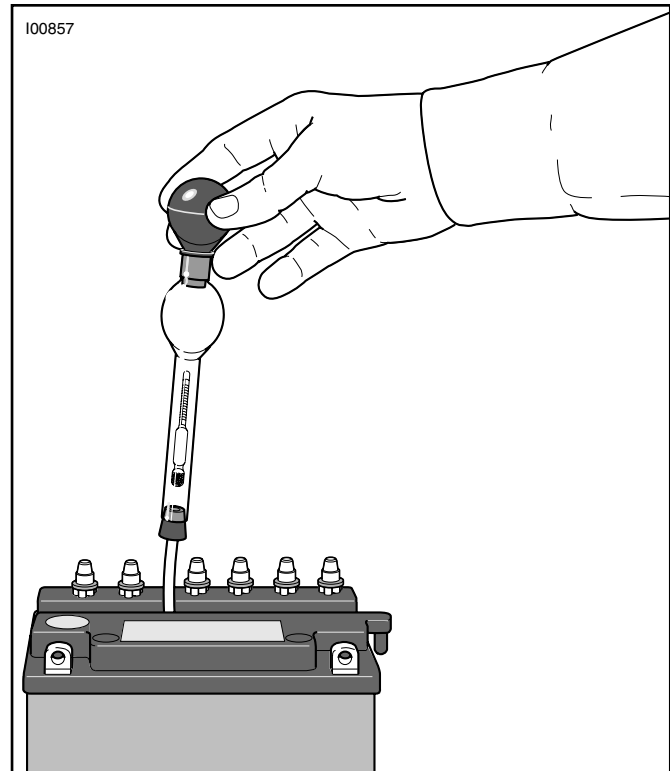

Figure 4. Measuring Specific Gravity of Electrolyte with Hydrometer
6. See Figure 4. Charge battery until specific gravity of electrolyte increases to 1.260 - 1.270 at 80° F (27° C). Measure with HYDROMETER (Part No. HD-96910-35).